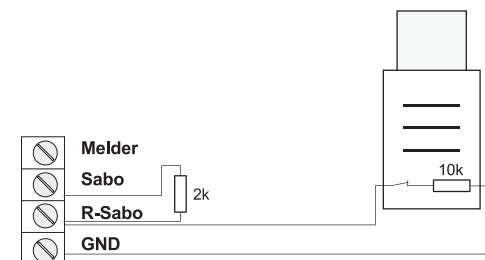

Fig. 7
**Example:** An alarm siren has a firmly integrated resistor of 10 kΩ at the sabotage terminal. Configure the resistance of 12 kΩ from the ETS2. Connect a 2 kΩ compensating resistor to obtain a sabotage line total resistance of 12 kΩ. Refer to Fig. 7.